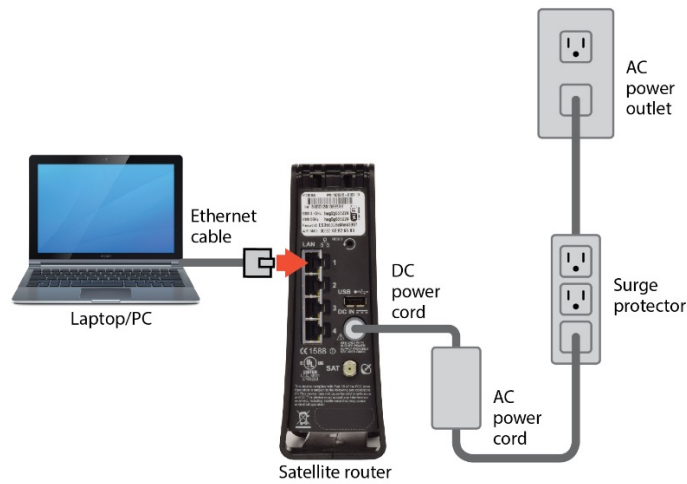

Figure 10: Connecting your laptop to the modem
1. Enter 192.168.0.1 into a browser on your laptop. The System Control Center home page appears as shown in Figure 10. Note the “Your System is Not Quite Ready” message. This is the first screen of the commissioning process.